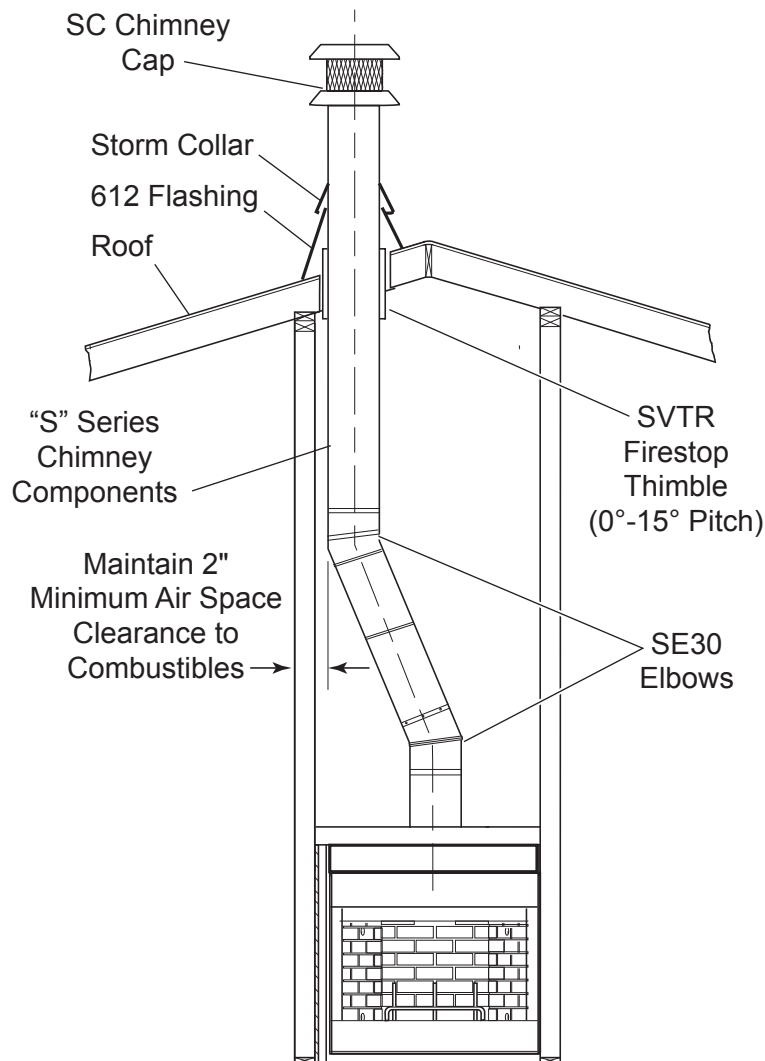

Figure 17 - Typical Chimney Offset Installation
4. Inclined portions of chimney are often used as storage. Enclose the inclined portions of chimney that pass through living spaces to avoid contact with and possible damage to chimney. Maintain minimum air space of 2" between chimney and enclosing. See Figure 17.